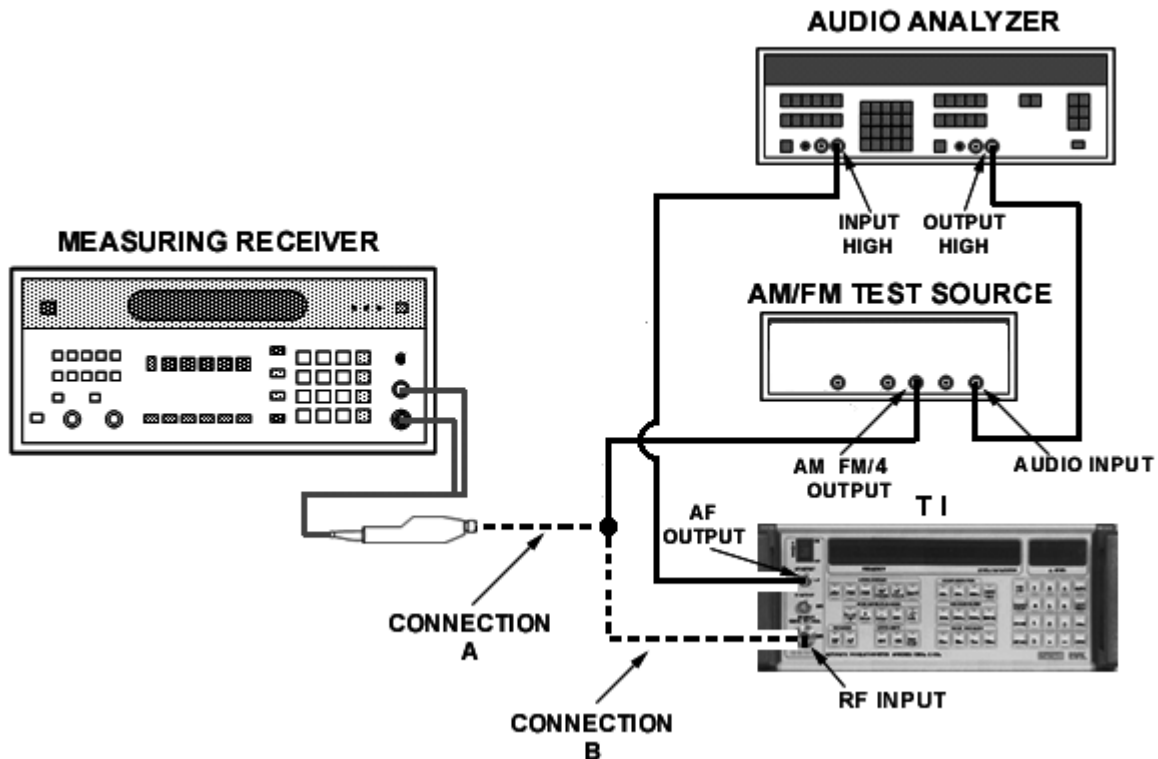

Figure 6. FM and PM accuracy.
- (1) Connect equipment as shown in figure 6, CONNECTION A.
- (7) Connect equipment as shown in figure 6, CONNECTION B.
- (8) Press TI pushbuttons (on) as indicated in (a) through (d) below:
(9) **TI LEVEL/DATA ENTRY** display will indicate within  $\pm 3\%$  + one count of the recorded value in (6) above.
(10) Connect equipment as shown in figure 6, CONNECTION A.
(11) Set audio analyzer **SOURCE LEVEL** to 764 mV.
(12) On measuring receiver, record frequency modulation displayed indication.
(13) Connect equipment as shown in figure 6, CONNECTION B.
(14) **TI LEVEL/DATA ENTRY** display will indicate within  $\pm 3\%$  + one count of the recorded value in (12) above.
(15) Audio analyzer display will indicate  $<0.15\%$  distortion.
(1) Connect equipment as shown in figure 6, CONNECTION A.
(2) Set audio analyzer **SOURCE LEVEL** to 153 mV.
(3) On measuring receiver, press **PM** pushbutton and record phase modulation displayed indication.
(4) Connect equipment as shown in figure 6, CONNECTION B.
(5) Press **TI LEVEL DISPLAY PM** pushbutton (on).
(6) **TI LEVEL/DATA ENTRY** display will indicate within  $\pm 3\%$  + three counts of the recorded value in (3) above.
(7) Connect equipment as shown in figure 6, CONNECTION A.
(8) Set audio analyzer **SOURCE LEVEL** to **229 mV**.
(9) On measuring receiver, record phase modulation displayed indication.
(10) Connect equipment as shown in figure 6, CONNECTION B.
(11) **TI LEVEL/DATA ENTRY** display will indicate within  $\pm 3\%$  + three counts of the recorded value in (9) above.